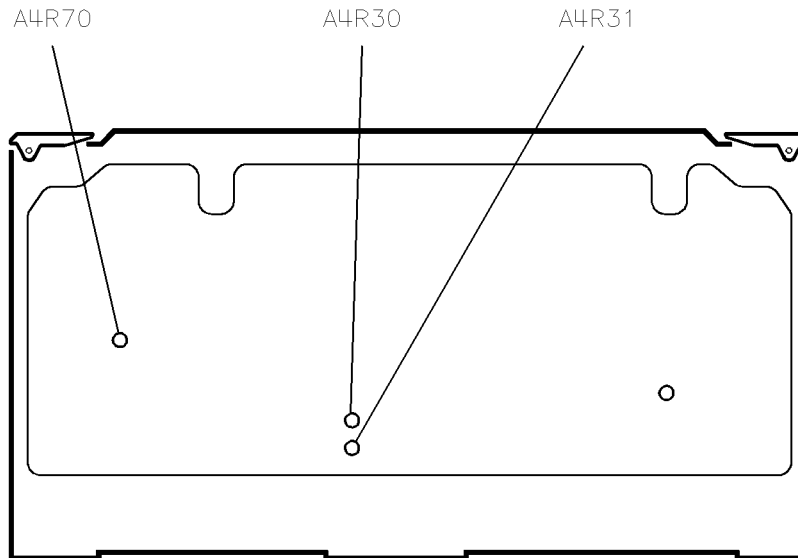

Figure 12-6. Fractional-N Reference and API Spurs Adjustment Locations
5. On the synthesizer, adjust A4R70 (see Figure 12-6) for minimum signal on the spectrum analyzer.
8. On the synthesizer, adjust A4R31 (see Figure 12-6) for minimum signal on the spectrum analyzer.
11. On the synthesizer, adjust A4R30 (see Figure 12-6) for minimum signal on the spectrum analyzer.